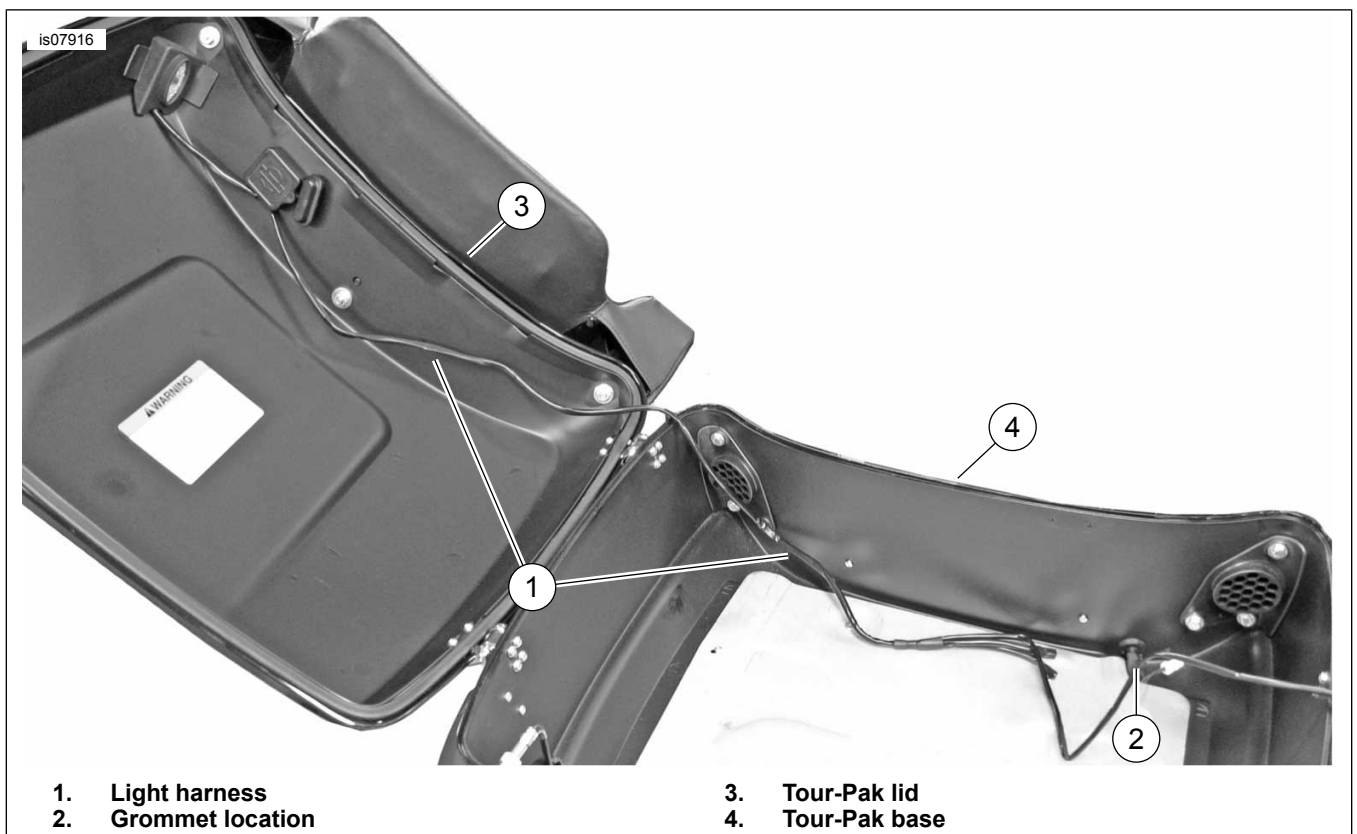

Figure 4. Tour-Pak Interior Light Harness Routing
3. See Figure 4. Route the wire harness (1) from the light/controller around the inside face of the front edge of the Tour-Pak lid.